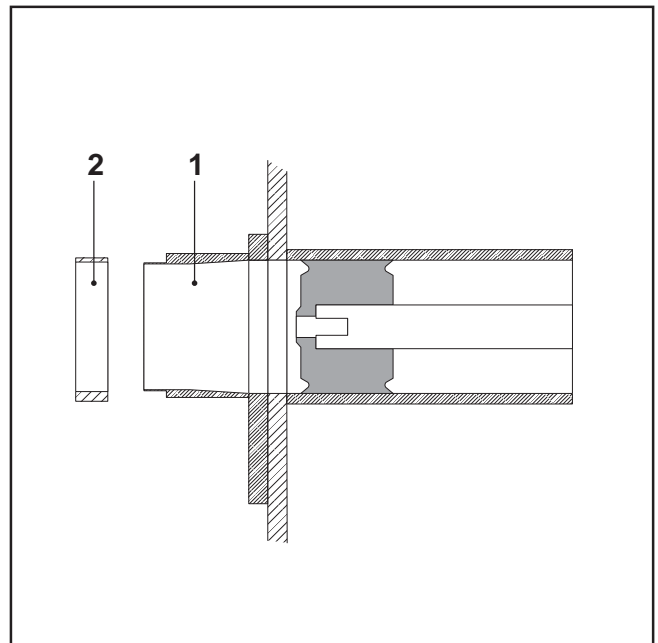

FIG.42
- Slip on the guide ring (FIG.42-REF. 1) applying the tapered part on the wear plate.
- Holding the guide ring against the liner, slip the spacer (FIG.42-REF. 2) on to the guide ring.